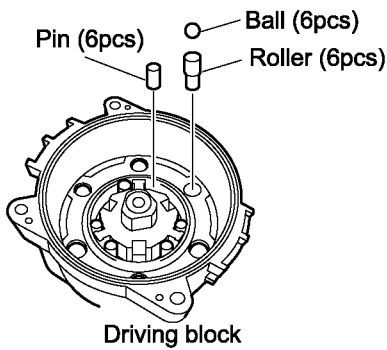

Fig. 9
1. Start from inserting 6 rollers and balls into the holes of driving block one of each as shown in the Fig. 9.
2. Insert 6 pins into the driving block as shown in the Fig. 9.
2. Start from inserting 6 rollers and balls into the holes of driving block one of each as shown in the Fig. 9.
3. Insert 6 pins into the driving block as shown in the Fig. 9.